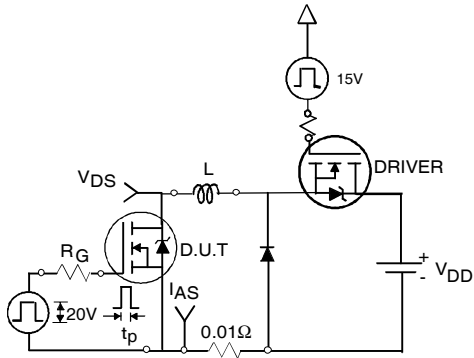

Fig 12a. Unclamped Inductive Test Circuit
- ③ $I_{SD} \leq 125A$, $di/dt \leq 260A/\mu s$, $V_{DD} \leq V_{(BR)DSS}$, $T_J \leq 175^\circ\text{C}$
- ④ Pulse width $\leq 400\mu s$; duty cycle $\leq 2\%$.
- ⑤ $C_{oss\ eff.}$ is a fixed capacitance that gives the same charging time as C_{oss} while V_{DS} is rising from 0 to 80% V_{DSS} .
- ⑥ Calculated continuous current based on maximum allowable junction temperature. Package limitation current is 90A.
- ⑦ Limited by T_{Jmax} , see Fig.12a, 12b, 15, 16 for typical repetitive avalanche performance.
3. Equation below based on circuit and waveforms shown in Figures 12a, 12b.